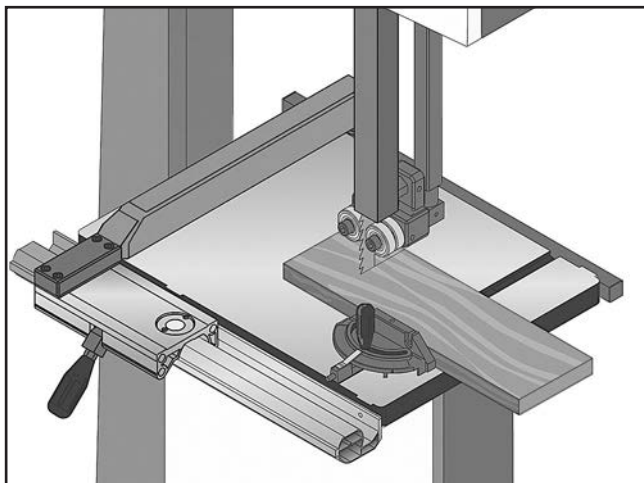

Figure 77. Example of crosscutting.
5. After all safety precautions have been met, turn the bandsaw **ON**. Slowly feed the workpiece into the blade and continue the cut until the blade is all the way through the workpiece. **Figure 77** shows a typical crosscutting operation.